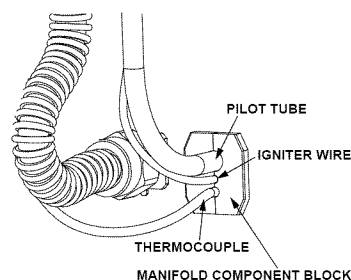

FIGURE 37.
- Position the new pilot tube through the largest opening of the manifold component block. **NOTE:** The largest opening should be located at the top position. The igniter wire should be located in the middle opening and thermocouple in the bottom opening. (Figure 37)